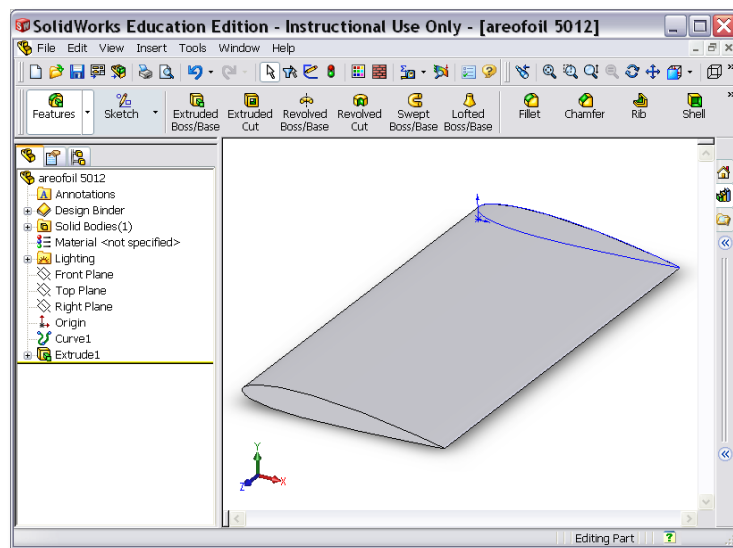

Figure 3: The Final Result
- You can now extrude the sketch as normal. You should end up with something like Figure 3